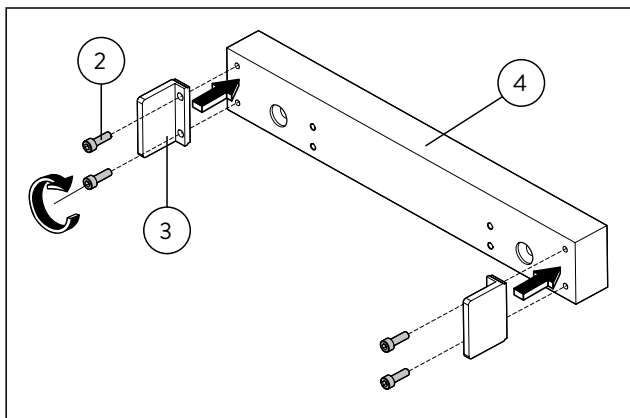

Abb. 9 Mount end covers
2. Screw the end covers to the screw-on plate (Abb. 9).